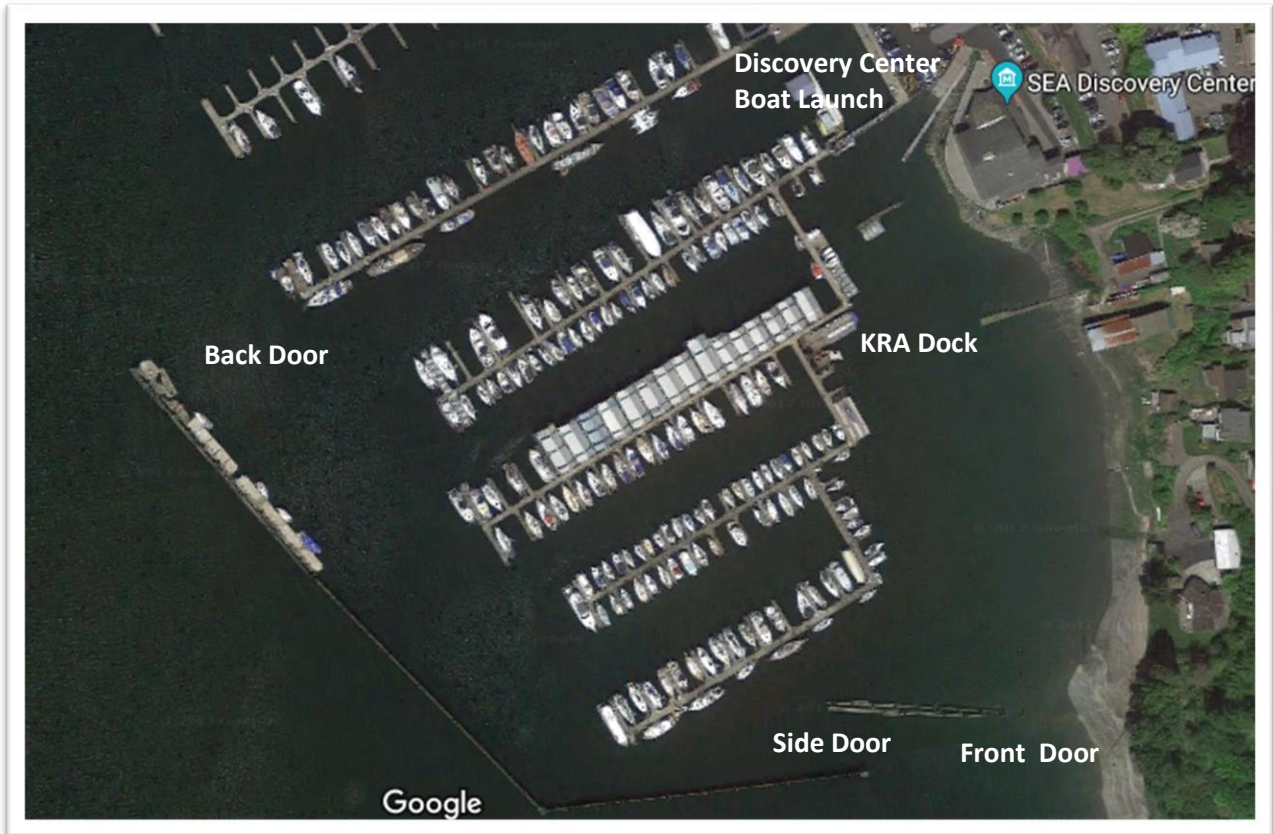

Figure 2: Port of Poulsbo
- c. If the shells are using the Front Door to exit or enter the marina, the launch can safely exit/enter between the last two pilings next to the Front Door during high tide. When in doubt, the launch operator can always use the Side Door. The shells draw significantly less water than the launch and are usually able to use the Front Door when it is too shallow for the launch to exit between the pilings. See Figure 2 on page 18.